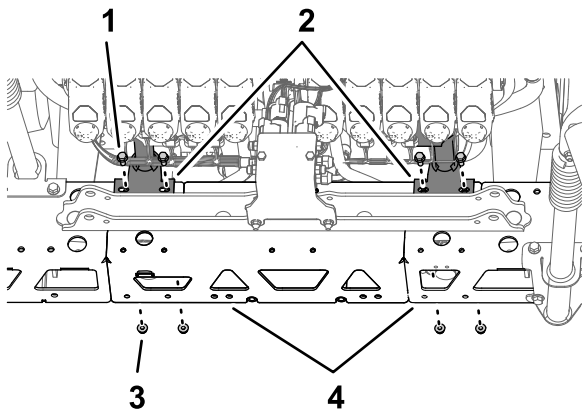

Figure 111
3. Assemble the valve mount to the truss frame (Figure 110 and Figure 111) with 4 bolts (5/16 x 3/4 inch) and 4 flange locknuts (5/16 inch).